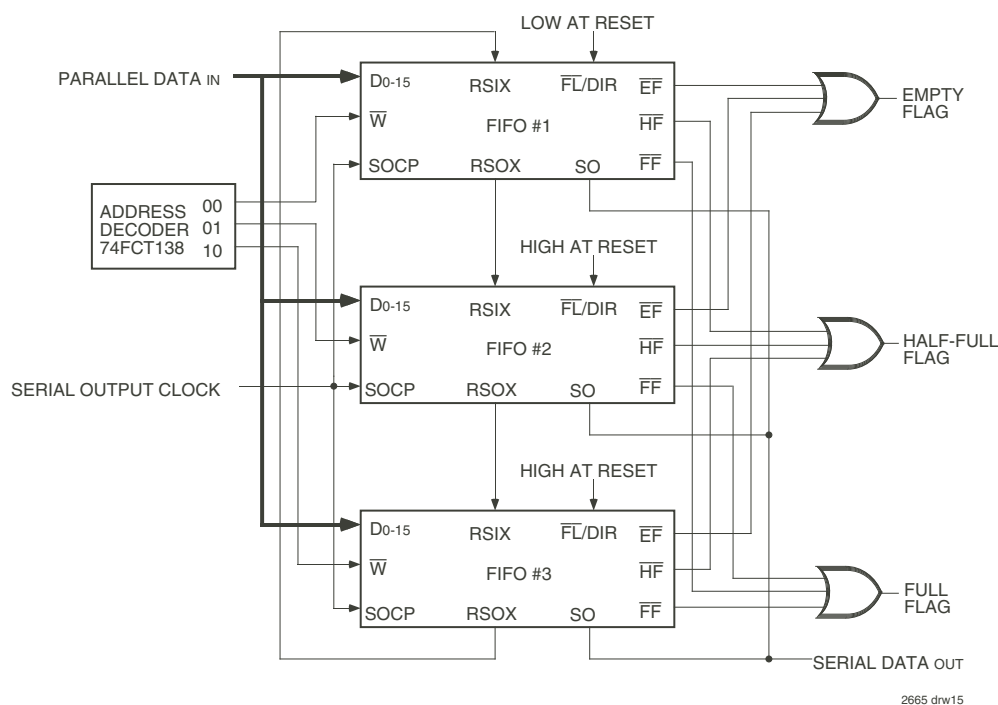

Figure 12. A 3K x 16 Parallel-to-Serial FIFO using the IDT72125
The IDT72125 can easily be adapted to applications requiring greater than 1,024 words. Figure 12 demonstrates Depth Expansion using three IDT72125s and an 74FCT138 Address Decoder. Any depth can be attained by adding additional devices. The Address Decoder is necessary to determine which FIFO is being written. A word of data must be written sequentially into each FIFO so that the data will be read in the correct sequence. These devices operate in the Depth Expansion Mode when the following conditions are met:
2. The Read Serial Out Expansion pin (RSOX) of each device must be tied to the Read Serial In Expansion pin (RSIX) of the next device (see Figure 12).